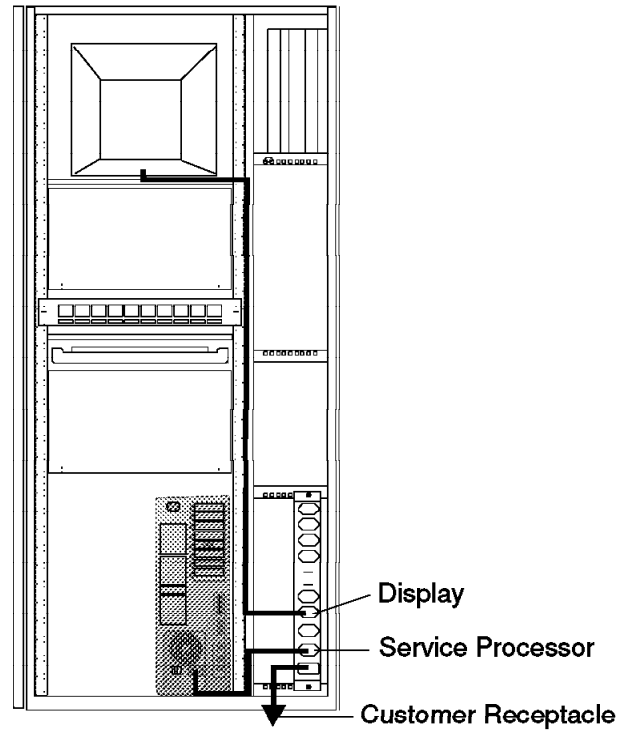

Figure 2. Power Cords Connection to an ac Outlet Distribution Box
- 5. Route and connect it to the ac outlet distribution box as shown in Figure 2. Secure these cables using tie clamps along the frame.